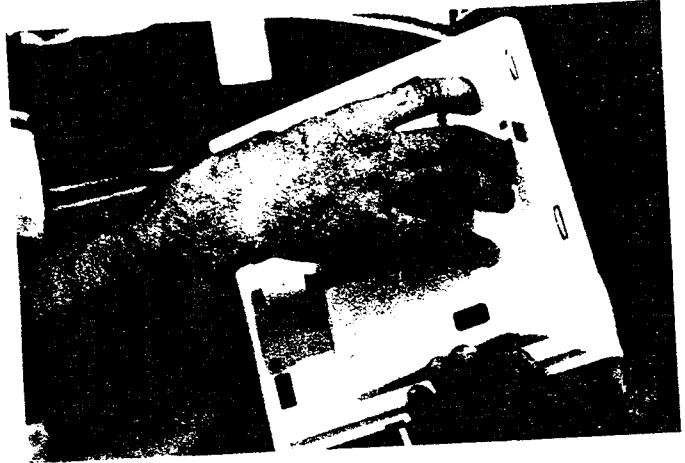

FIGURE 33—REMOVING EKT BASE
09.14 Locking tabs secure the EKT's base. The direction in which the base is attached to the EKT determines whether it will be a desk or wall unit (it is factory-configured as a desk unit). Disengage the locking tabs by pushing downward on the base (Figure 33).